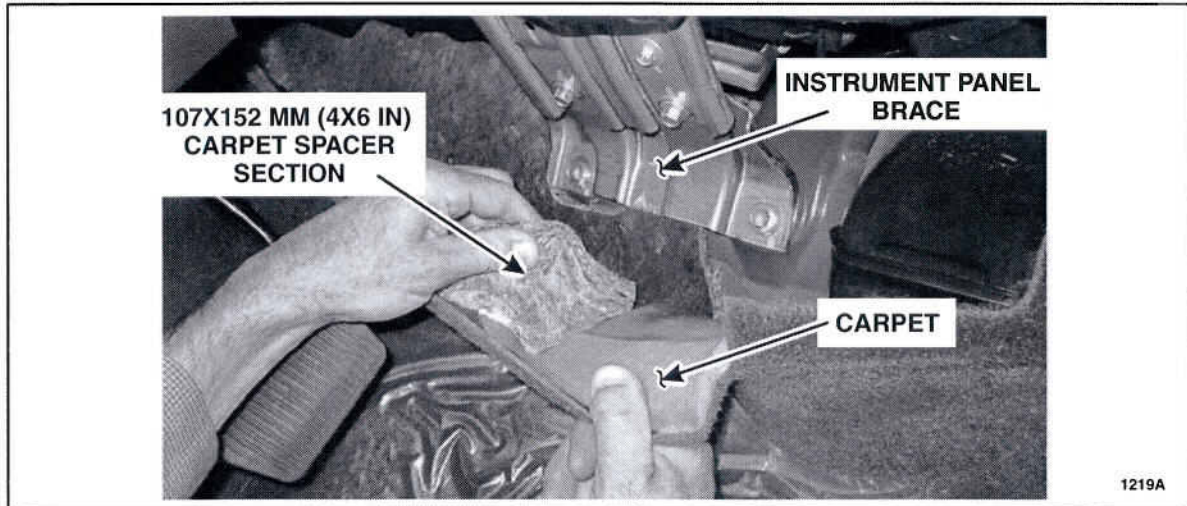

FIGURE 7
8. Position aside the carpet at the instrument panel brace. Remove and discard the 107x152 mm (4x6 in) carpet spacer section. See Figure 7.